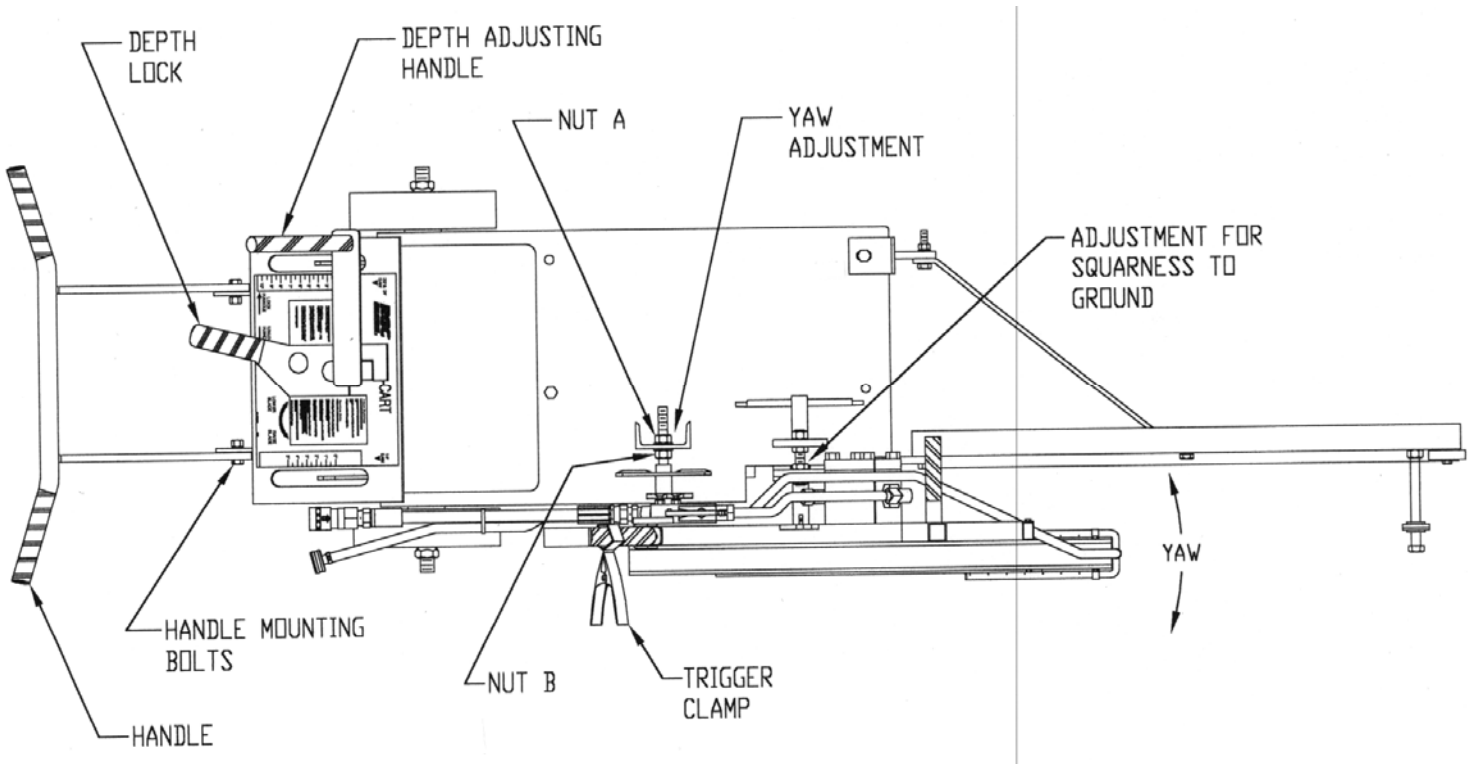

Figure 2
8. Adjust forward mount to ensure blade is square to ground. Loosen inner nut and tighten or loosen outer nut to adjust square to ground. Tighten after adjustment (see fig. 2).